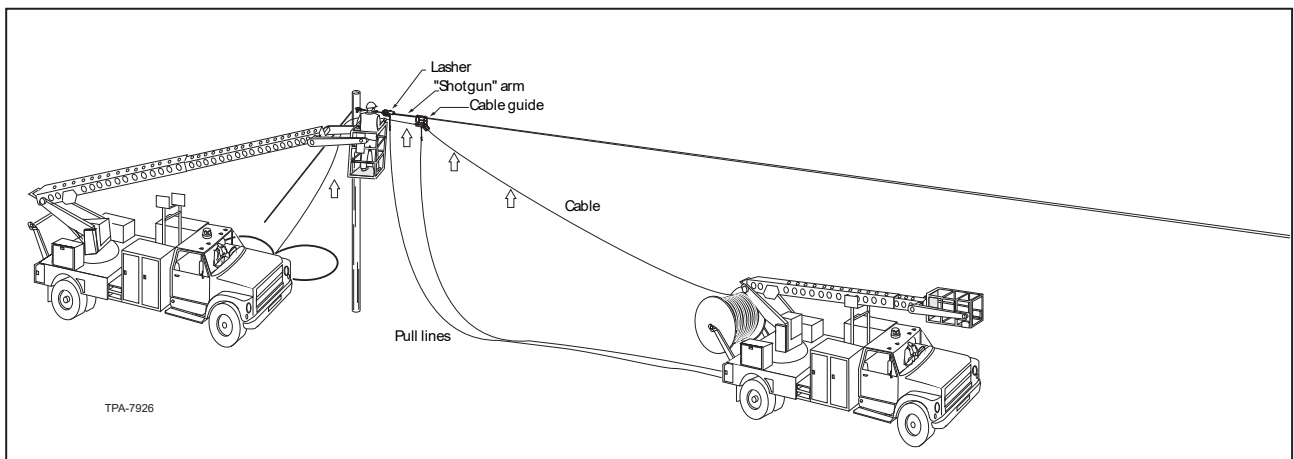

Figure 20 - Raising cable to a strand with a lift
7. Using an aerial lift, raise the cable to strand level and place it in the cable guide. Make sure that the cable moves freely and without stress as it leaves the ground. Do not allow the cable to exceed its minimum bend radius during this step (Figure 20).